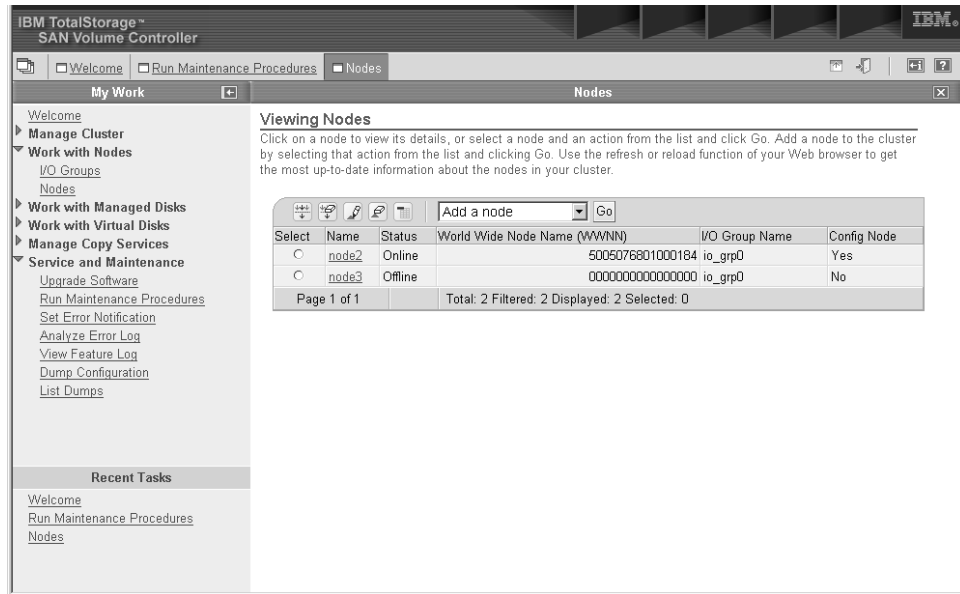

Figure 24. SAN Volume Controller Console Nodes panel
2. Select the Nodes option and the following panel is displayed. See Figure 24 on page 9.